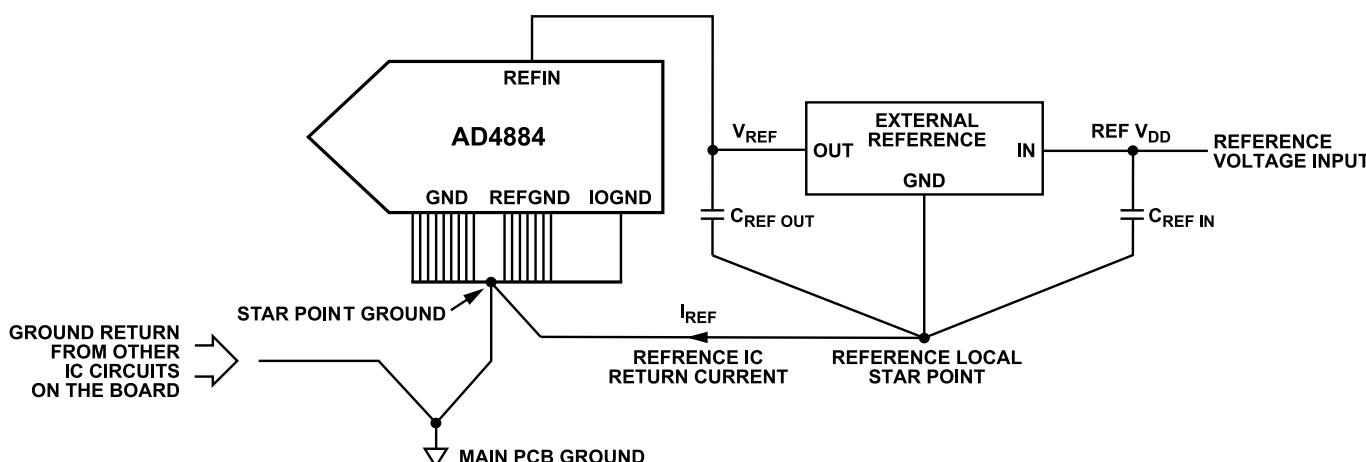

Figure 144. AD4884 External Reference Ground Connections
- Recommended connections of ground (GND), reference ground (REFGND), and digital ground (IOGND) connections are shown in Figure 144. It is recommended not to keep the current return path of the reference IC in the same current loop as the current return loop from other circuitry on the PCB. Connect the reference local star point to the ADC star point ground on the top layer of the PCB, as shown in Figure 144.